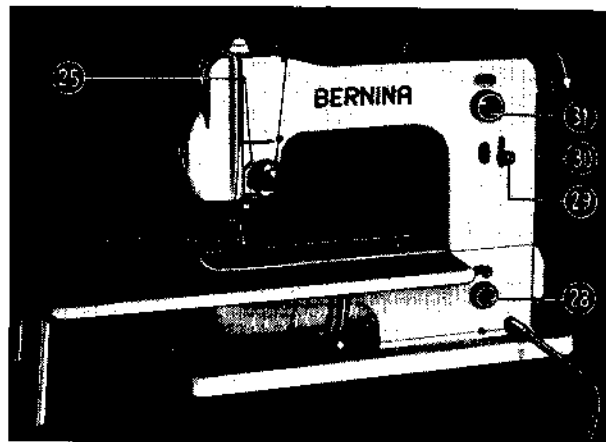

Fig. 22
1. Lower feed dog by turning knob 28 (Fig. 22) to the left until darning sign appears.
2. Set stitch regulator lever 29 (Fig. 22) on zero
3. Set zigzag adjusting knob 31 (Fig. 22) on 3 or 4.
When sewing on a lace, use a short and narrow stitch. Therefore, set stitch regulator 29 (Fig. 22) on No. 1 and zigzag adjusting knob 31 on No. 1 or 2. Place the lace on the fabric, about $\frac{1}{4}$ inch inside of its edge, so that the sewing is easier. Then sew the lace on and along this zigzag seam cut the superfluous part of the fabric that remains under the lace.
The roll hemmer, marked with two red stripes, is similar in form as the ordinary hemmer. The only difference is that the stitch hole is not round but large, so to allow zigzag sewing. Proceed as in ordinary hemming. Place zigzag adjusting knob 31 (Fig. 22) on No. 3 or 4. Roll hems are particularly used for edging fine material.
On the Bernina zigzag sewing machine any ornamental stitch can be made in a really simple manner. According to the desired stitch, place the stitch regulator 29 (Fig. 22) more or less below zero and while sewing, turn the zigzag adjusting knob 31 (Fig. 22) to the right and to the left. After having made a few stitches, one is already acquainted with this kind of embroidery.
3. Set zigzag adjusting knob 31 (Fig. 22) on No. 2. When sewing a buttonhole on jersey material, it is preferable to set this knob on $2\frac{1}{2}$.
4. Adjust stitch regulator 29 so that the zero line of the scale will be a little under the sign of demarcation on the right hand side of the scale. This can be done only if lock screw 30 (Fig. 22) is not turned in too much.